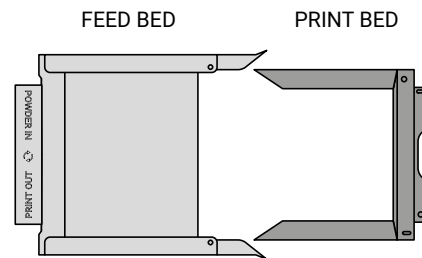

Fig. 8.3 The proper arrangement of the IO BOX, allowing the user to remove the finished printout.
5. Place the folded IO BOX inside the print chamber. Make sure its elements are arranged like in the figure 8.3.